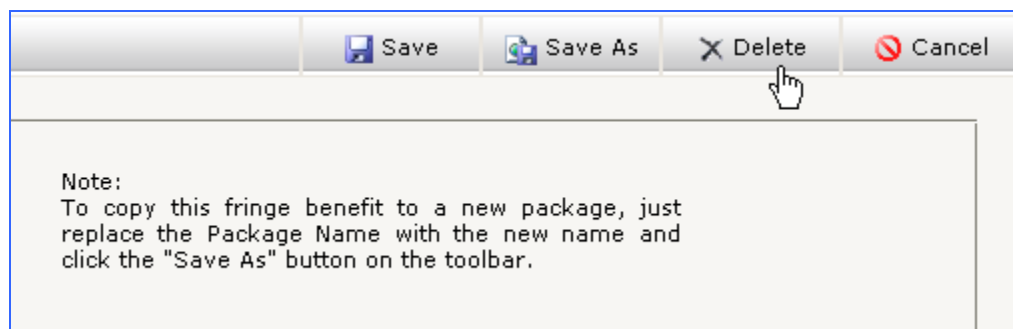

Figure 58 - Click on Delete Screen
2. Locate the Fringe Benefit Package that you want to copy from and double-click on the name. This will direct your web browser to the Benefit Package Summary screen (Figure 58).